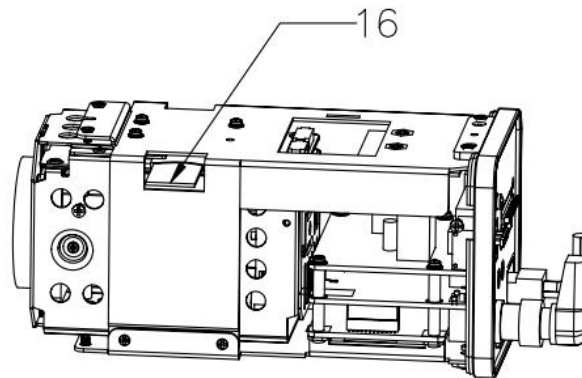

Figure 1-10
c) Take or remove SD card. See Figure 1-10.